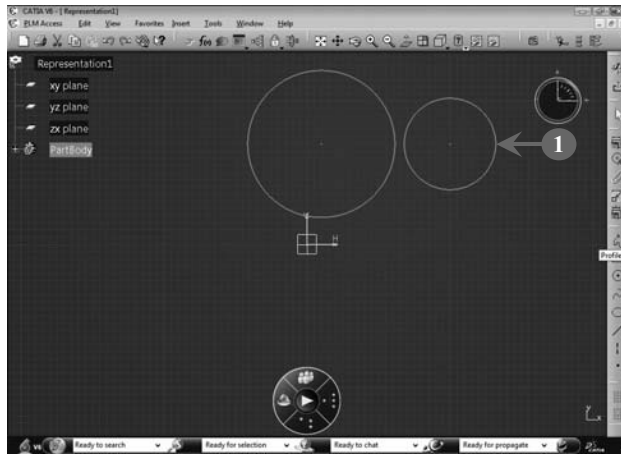

FIGURE 2.78
1. *Select* two circles to which you want to apply the fix together constraint, as shown in **Figure 2.78**: